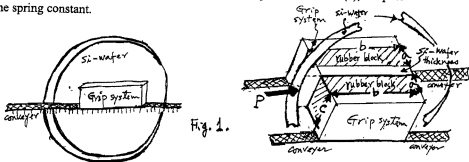

Fig. 1.
1. A 30cm (ie. 12in) Si-wafer is clamped by a grip system which consists of two blocks of hard rubber bonded to the conveyor as shown in Fig. 1. The rubber has a modulus of rigidity 12MPa and maximum shear stress 1.4MPa. Also the maximum allowable displacement of wafer is 5.0 mm. Knowing that  $b=16\text{cm}$  and  $P=44.5\text{kN}$ ,